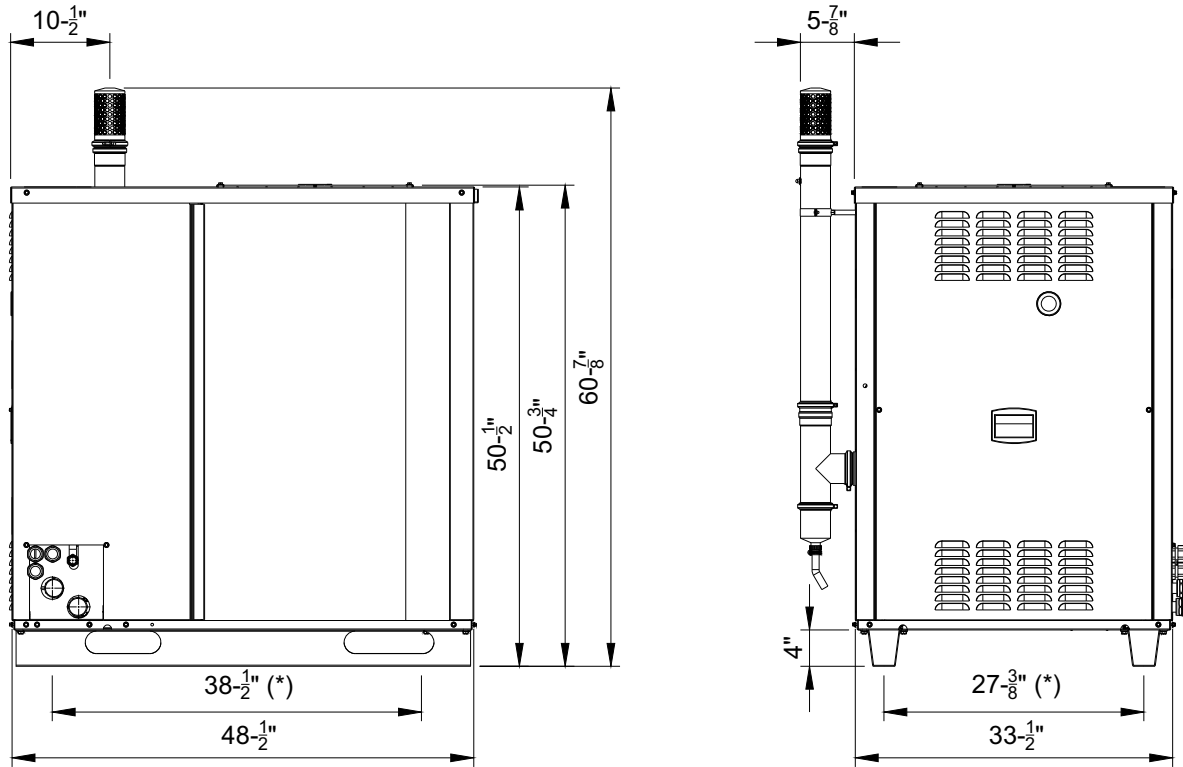

Figure 3 – GAHP-AR external dimensions.
(2) UNITS ARE FACTORY-WIRED FOR 208-230 VOLTS OPERATION.
(3) MAY VARY BY ±10% AS A FUNCTION OF BOTH POWER SUPPLY AND ELECTRICAL MOTOR INPUT TOLERANCE.
(4) REFERRED TO A SOLUTION OF QUALITY TAP WATER AND 10% BY VOLUME OF INHIBITED PERMANENT ANTIFREEZE. HIGHER ANTIFREEZE CONCENTRATIONS MAY BE REQUIRED IN CERTAIN APPLICATIONS. MONO-ETHYLENE GLYCOL CAUSES CORROSION PHENOMENON IN GALVANIZED METAL PIPES.
(5) FOR GASES DUCT DIMENSIONS SEE FIGURE 3, PAGE 14.